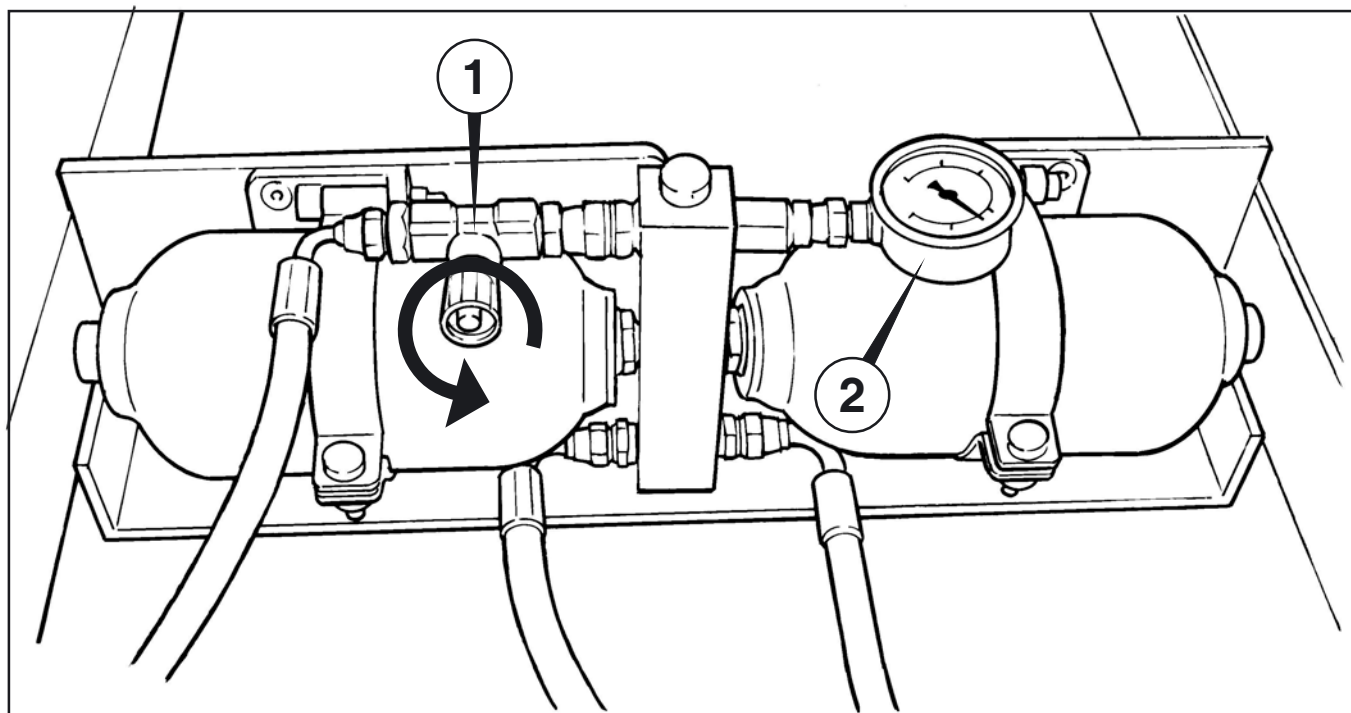

Fig 5
- Open the system lock valve by turning in an anticlockwise direction, Fig 5:1.
- Operate the tractor auxiliary system to obtain a pre-charge working pressure shown on the gauge, Fig 5:2, of 115 bar (1670 psi).